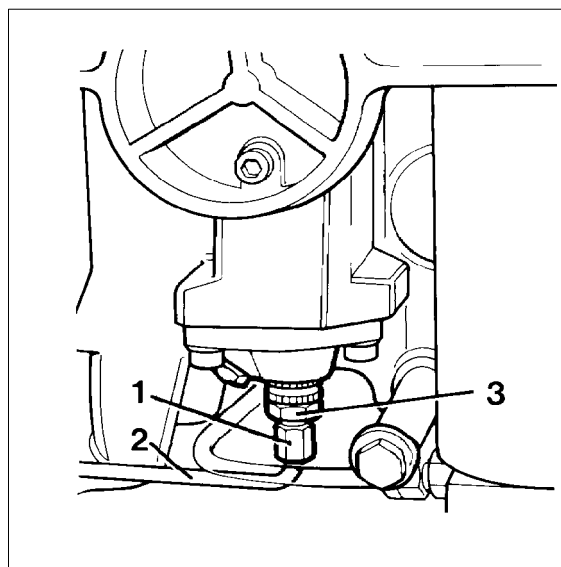

Fig. 8 Venting oil pump
- With compressor shut down, remove nut (1) and line (2) from oil pump (see Fig. 8).
- Loosen connector (3) until oil emerges free of air-bubbles. Tighten connector, fit line and nut and tighten.